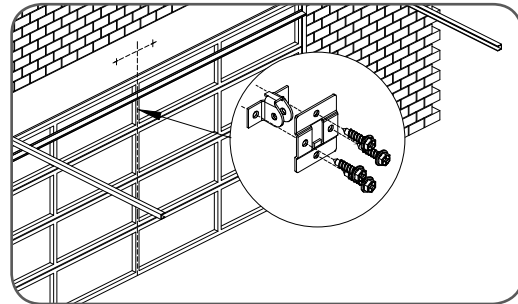

fig 17
The door bracket comes in two parts. The bottom plate with two mounting holes is used on its own for one piece doors. For sectional doors, the top plate is placed over the bottom plate and is fixed with four (4) screws (**Fig. 17**).
- Mount the door bracket, or bracket assembly, on the door's centre line one-third down the top panel (**Fig. 17**) using M6 or equivalent screws (not supplied),